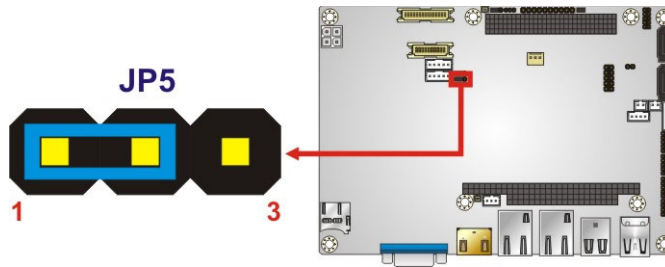

Figure 4-4: LVDS1 Voltage Selection Jumper Location
- Jumper Location:** See Figure 4-4